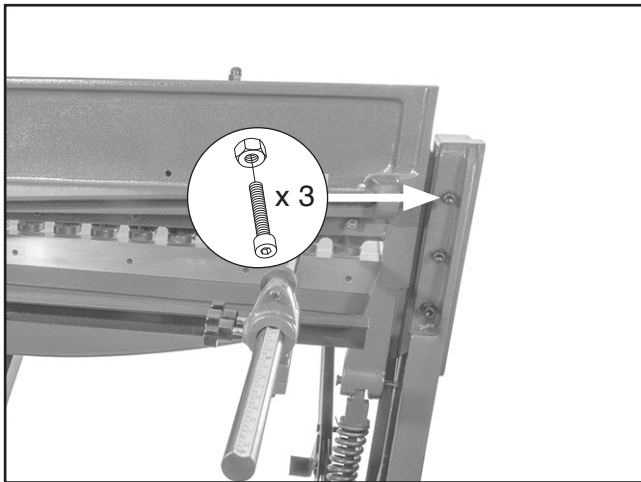

Figure 39. Location of gib screws and jam nuts.
1. Loosen (3) jam nuts on each gib (see **Figure 39**).
2. Adjust (3) gib screws on each side of shear in small, equal increments (see **Figure 39**). Test for binding or play after each adjustment by pushing or pulling top of cutter bar.
3. Loosen (2) hex bolts for front scale that needs adjustment (see **Figure 39**).